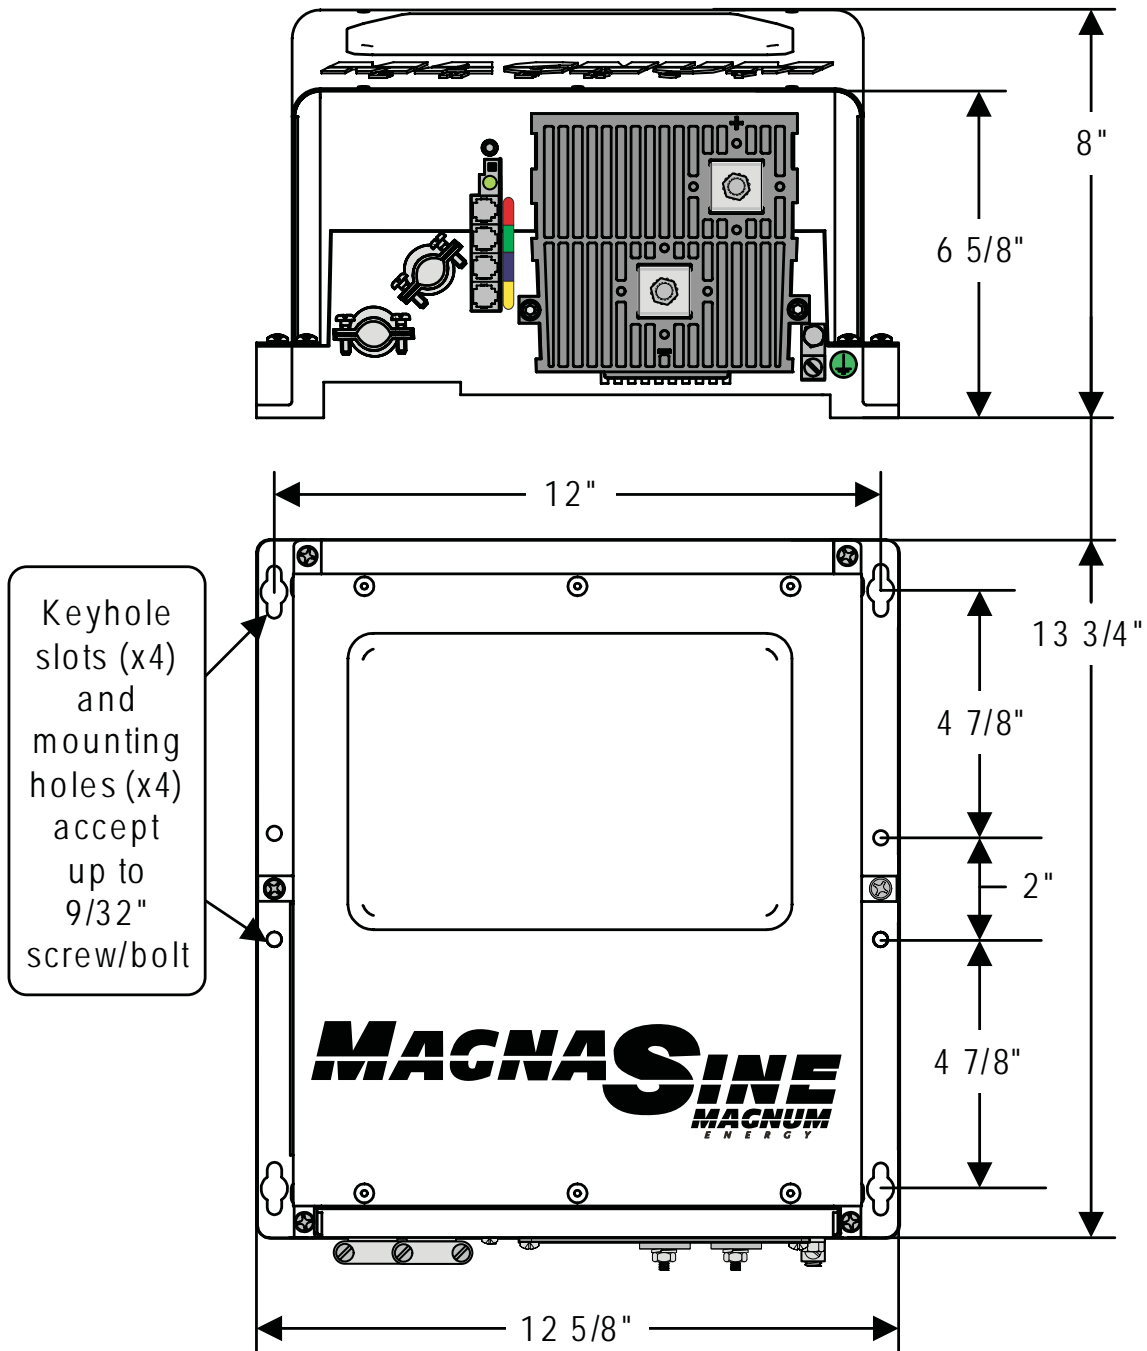

Figure 2-3, MS-AE Series Dimensions
**Accessible** - Do not block access to the inverter's remote control and accessory ports as well as the inverter's controls and status indicator. Also allow enough room to access the AC and DC wiring terminals and connections, as they will need to be checked and tighten periodically. See figure 2-3 for the MS-AE Series inverter/charger dimensions.
After determining the mounting position, refer to the physical dimensions as shown in figure 2-3 or use the base of the inverter as a template to mark your mounting screw locations. After marking the mounting screw locations, mount the unit with appropriate mounting hardware.